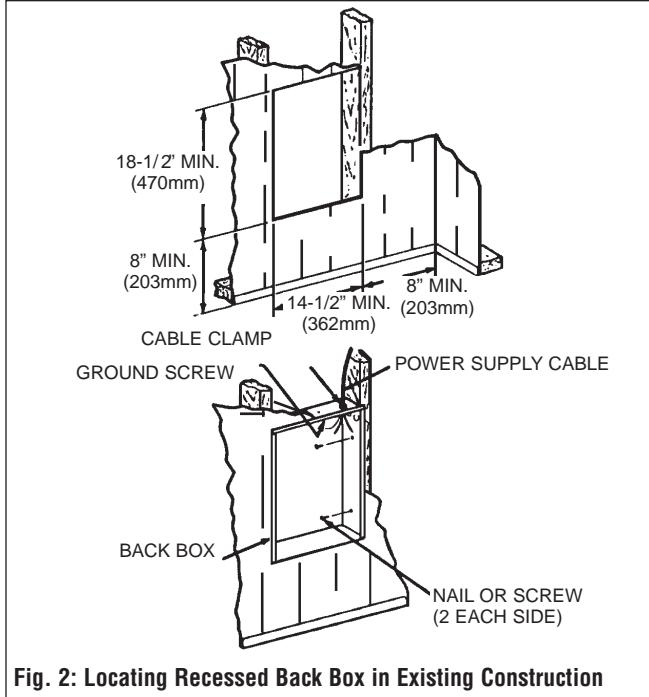

Fig. 2: Locating Recessed Back Box in Existing Construction
1. Provide a wall opening 14-1/2" (362mm) wide x 18-1/2" (470mm) high at the desired mounting height, but no closer than 8" (203mm) to adjacent wall. (See Figure 2.)